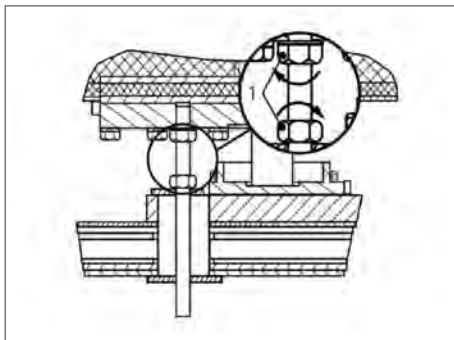

Figure 75
4. Attach the wrench to both nuts (Fig. 75 | 1) and turn them in counter-rotating motion (Fig. 75 | arrow) to lift the Palletank®.